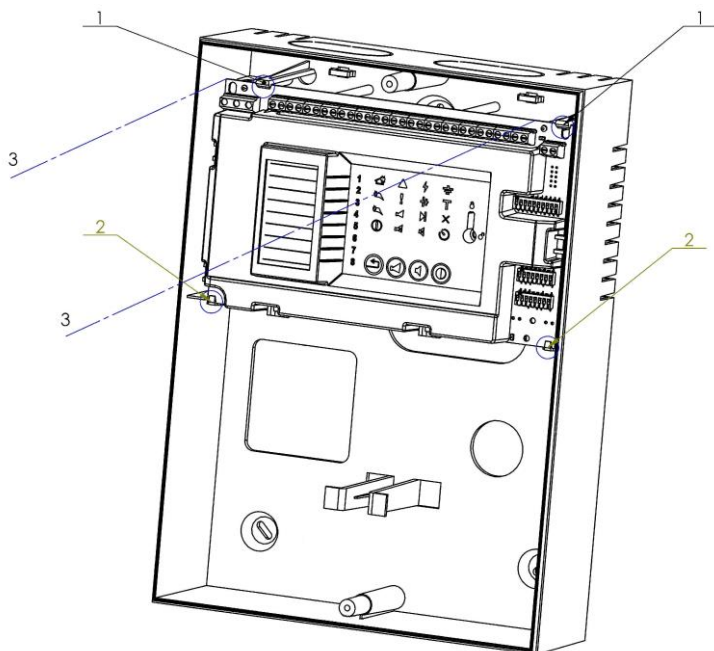

Fig.4
2.4. Pull-out the main interface board (fig.4) following the sequence:
- push the holders on the top side (fig.4, pos.1);
- take out (from the top holders) the interface board and leave it fixed on the bottom holders (fig.4, pos. 2);
- pull the interface board out of the bottom side holders (fig.4, pos. 3), till fully released;